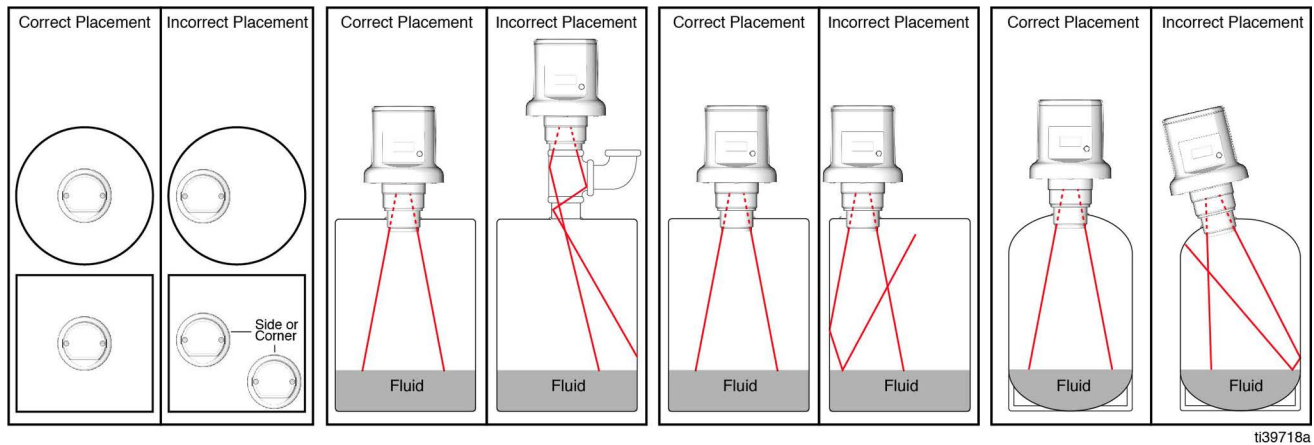

FIG. 5
1. Select a flat area on the top of the tank located towards the center (FIG. 5).